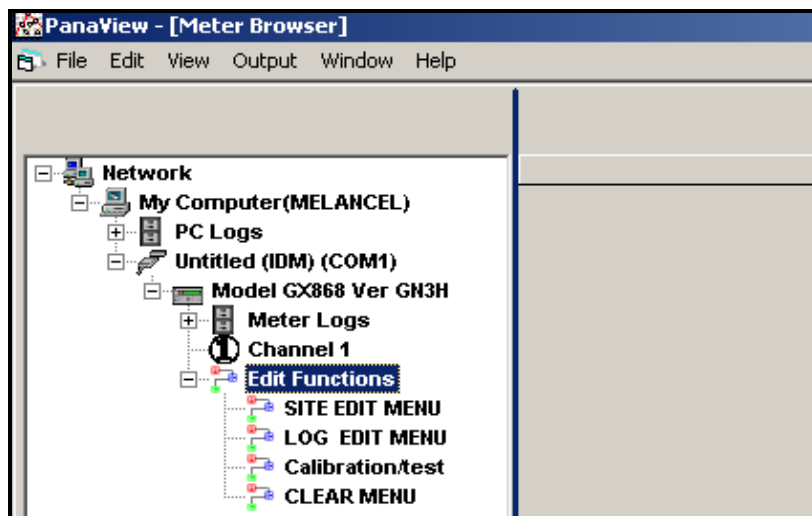

Figure 35: Meter Tree with *Edit Functions* Option
- From the meter tree, expand the *Edit Functions* option. The window now appears similar to Figure 35, with a list of available menus. The menus listed are those available on the meter.